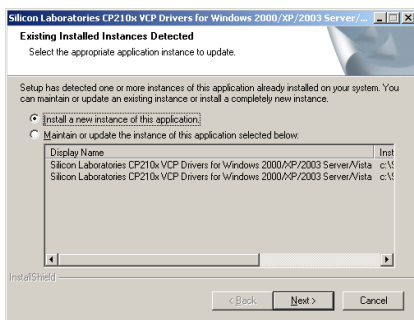

Fig. 10 USB Driver Installation Screen 1
1) Execute "CP210x_VCP_Win2K_XP_S2K3.exe" in Setting Software CD. Then, the screen as shown in Fig. 10 will appear.
2) Press "Next" in Fig.10 to proceed to the next screen.